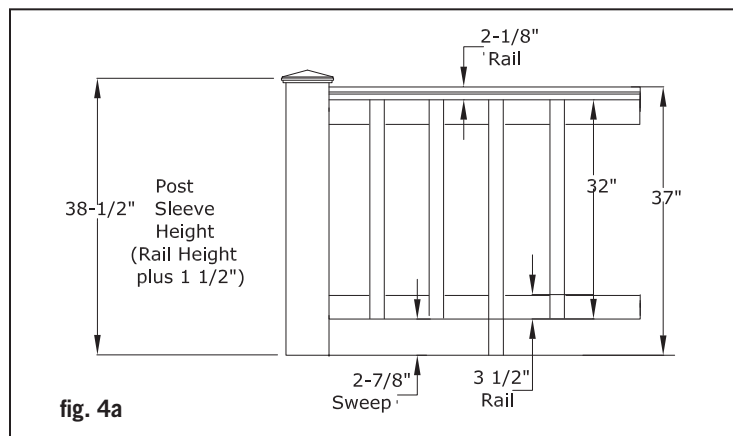
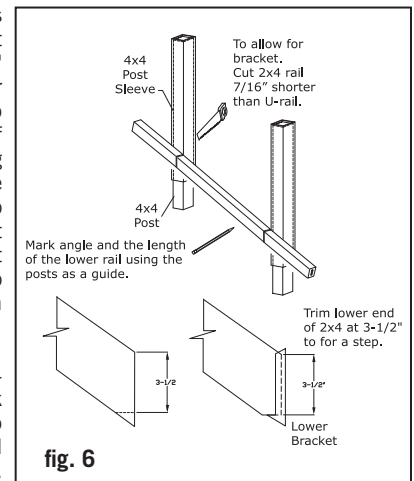

fig. 4a
fig. 6
Step 5: Trim 4x4 post sleeves to length. Post sleeves should be a minimum of 1-1/2" longer than the railing height (figs. 4a and 4b). Example: For a 36" high railing, trim post sleeve to a minimum of 37-1/2"; can be left longer if desired. Slide a trimmed post sleeve over each 4x4 railing post. Slide a post base trim over each post sleeve.
Step 8: A support block is needed every 2' on-center. For a 6' rail section, two composite support blocks are provided. Check building code requirements for a maximum spacing between deck surface and bottom of rail (sweep). Spacing of 3" is recommended but can be more or less if codes allow (figs. 4a and 4b). Cut support blocks to the desired height. Place equal distance from each post. Pre-drill the underside of the lower 2x4 rail and the ends of the support blocks with a 1/8" drill bit. Attach the support blocks to the rail using the two dowel screws.
Step 11(a): Fig. 4a illustrates how a 37" high railing might be sized. Starting with a 2-7/8" sweep + 32" for the baluster height + 2-1/8" for the cap rail = a 37" rail height. If you want to have your railing at a different height, use fig. 4a as a planning tool to determine the height to cut the post sleeves and support blocks. **Note:** Use a fixture to ensure a consistent length (+/- 1/16").
Step 12(a): Using a 2x4 bracket as a template, mark screw positions on the post and pre-drill with a 1/8" drill bit (fig. 6). Attach bracket to the post with two 2" long screws. Repeat marking and pre-drilling the post sleeve for the other end. Install the upper rail in the brackets and pre-drill the six holes with a 1/8" drill bit. Fasten the rail in place with six 1" screws. **Note! On applications where the rail is connected to a corner post, pre-drill and toe-screw a 1-1/2" pan head screw at a 45° angle down through the end of the 2x4 and bracket into the post.**
Step 3: Complete stair tread installation prior to installing post sleeves. Trim 4x4 post sleeves to length. Post sleeves should be a minimum of 1-1/2" longer than the railing height (figs. 4a and 4b). Example: For a 36" high railing, trim post sleeve to a minimum of 37-1/2"; can be left longer if desired. Slide a trimmed post sleeve over each 4x4 railing post. Slide a post base trim over each post sleeve.
Step 4: Measure the distance between installed post sleeves to determine the length of the top and bottom rails (figs. 4a and 4b). ***Note! Trim the inner rail and the U-rail to the measurement of the gap between the posts. To allow for the thickness of the brackets, trim the 2x4 rails to 7/16" less than the gap between the posts.*** Cut rails to length and angle (fig. 6).
Step 6: The lower end of the 2x4 rails requires a second cut perpendicular to the first to fit on the lip in the lower 2x4 bracket. Measure 3-1/2" from the top of the rail and mark. Trim off the portion extending below the 3-1/2" mark (fig. 6). Position the bottom 2x4 rail between the posts.
Step 9(a): Fig. 4a illustrates how a 37" high railing might be sized. Starting with a 2-7/8" sweep + 32" for the baluster height + 2-1/8" for the cap rail = a 37" rail height. If you want to have your railing at a different height, use fig. 4a as a planning tool to determine the height to cut the post sleeves and support blocks. *Note: Use a fixture to ensure a consistent length (+/- 1/16").*
Step 10(a): Using a 2x4 bracket as a template, mark screw positions for the top rail on the lower post and pre-drill with a 1/8" drill bit. Attach with 2" screws (fig. 6). Repeat marking and pre-drilling the post sleeve using an open 2x4 stair bracket on the upper post. Install the upper rail in the brackets and pre-drill the six holes with a 1/8" drill bit. Fasten the rail in place with six 1" screws.